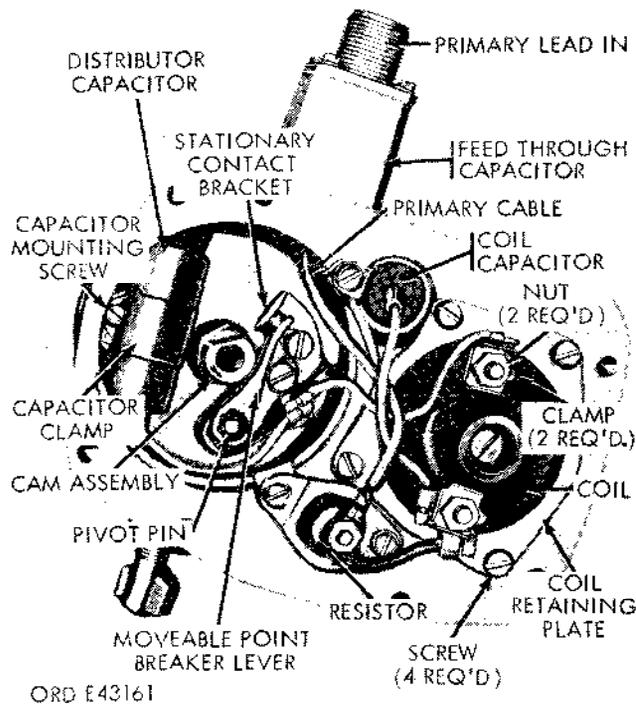

Figure 2-149. Distributor with cover removed.
(2) *Removal (fig. 2-149).*
(3) *Installation (fig. 2-149).*
e. Ignition Coil (fig. 2-149).
f. Resistor (fig. 2-149).
g. Coil Capacitor (fig. 2-149).